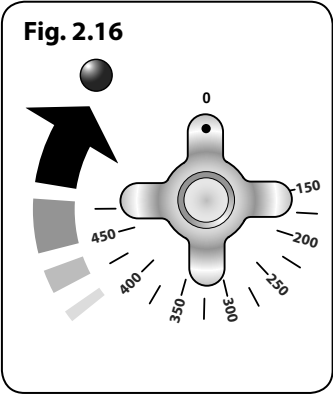

Fig. 2.16
- 1. Turn the oven knob to the desired temperature (**Fig. 2.16**).